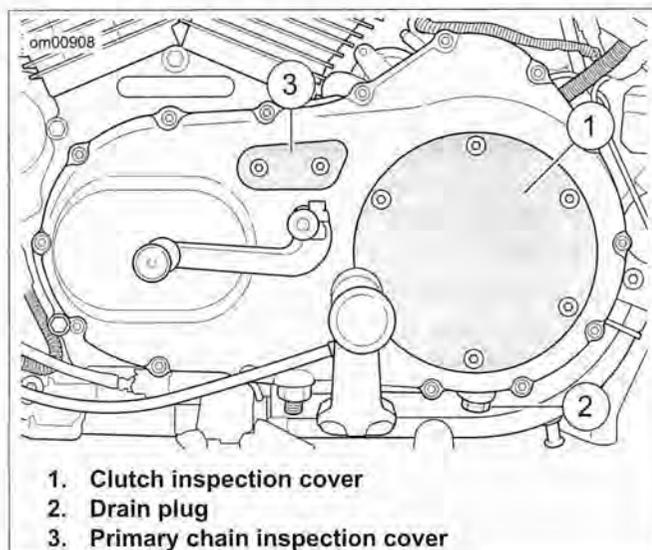

Figure 1-43. Primary Cover: XL Model
5. See Figure 1-43. Remove screws with washers and remove clutch inspection cover (1).
4. See Figure 1-43. Position a suitable container under transmission drain plug (2).